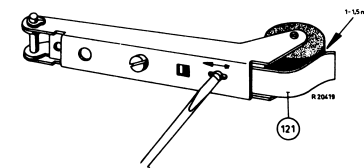

Fig 26
- The distance between the pressure roller and bracket 121 should be 1-1.5 mm, see fig. 26. This can be adjusted, if necessary, according to fig. 26.